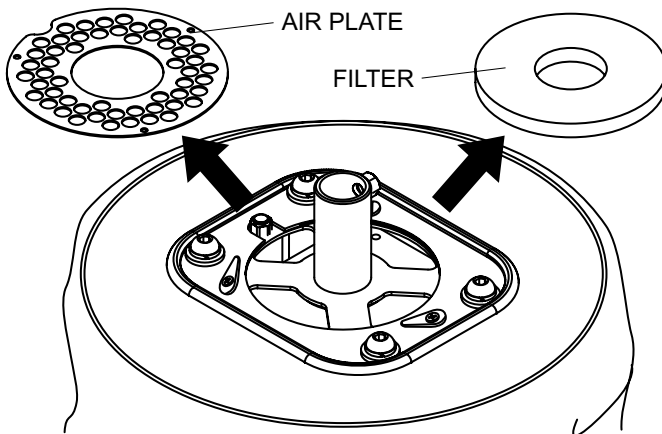

Figure 29. Filter Removal
4. Remove the air plate and filter. See Figure 29.